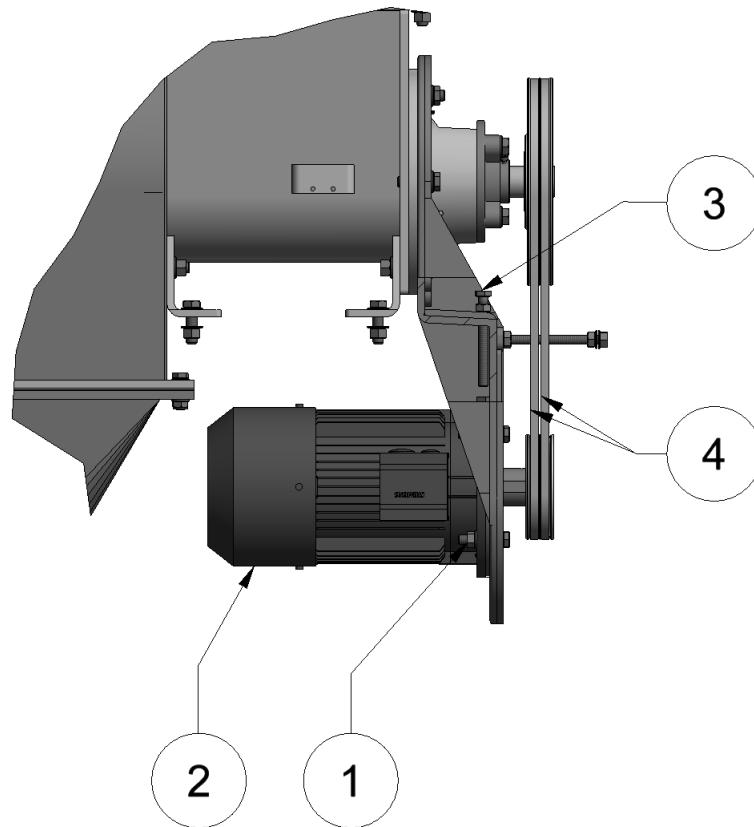

Fig. 9-41 Bearing housing (drive side): Remove V-belt
8. Remove nuts (1) and detach motor (2) → Fig. 9-41 "Bearing housing (drive side): Remove V-belt".
- a) → Fig. 9-41 "Bearing housing (drive side): Remove V-belt"
- c) Fit clamping bush (7) in the hub. Align all connection holes (the half threaded holes must aligned with the half, plain holes).
- d) Lightly grease bolt (5) (white grease) and screw in. Do not tighten bolt (5).
- e) Slide V-belt pulley (8) together with clamping bush (7) to the required position on the shaft (9).
- b) The position of the motor determines the required spacing between the upper and lower V-belt pulley and thus the pretension of the V-belt. To subsequently tension the fitted V-belt, tighten tensioning screw (3, Fig. 9-41) so that the tensioning screw forces the motor downward, i.e. increasing the axial spacing between the upper and lower V-belt pulley. If the V-belt is overtensioned, release the tensioning screw or correct the position of the motor.